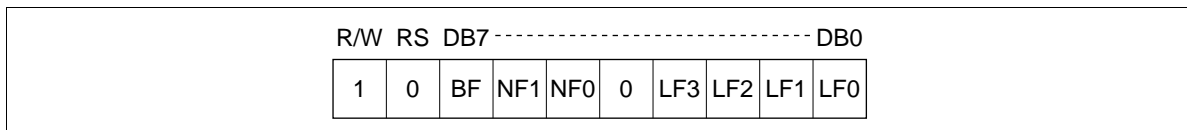

Figure 5 Status Register
The status register (Figure 5) includes the busy flag (BF), display line bits (NF1/0), and display raster-row bits (LF0 to LF3). If BF is 1, an instruction is being executed, and another instruction will not be accepted during this time. Any attempt to write data to a register at this time is ignored.